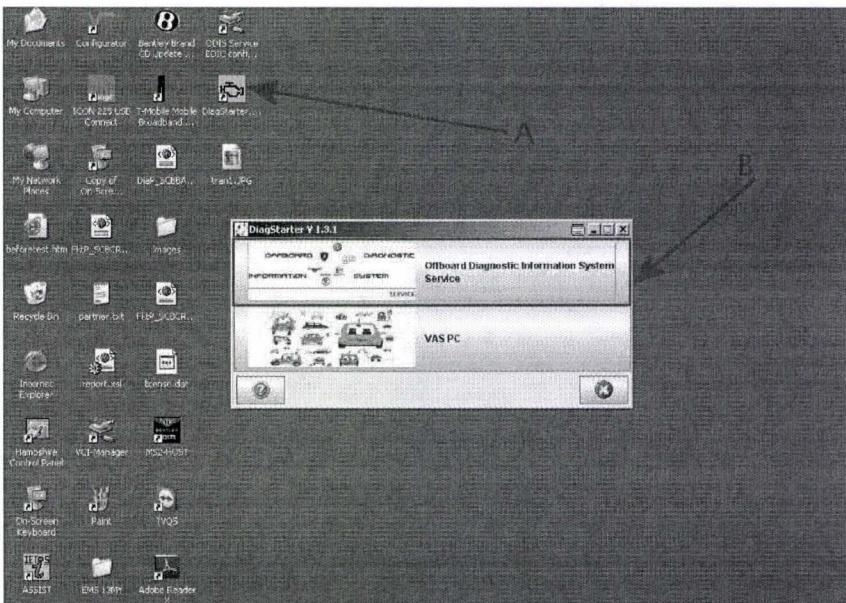

Figure 3
2. From the Desktop launch the Offboard Diagnostic Information System Service using the Diagstarter icon (Figure 3 Point A)
-Select Offboard Diagnostic Information System Service (Figure 3 Point B) and follow all on screen prompts